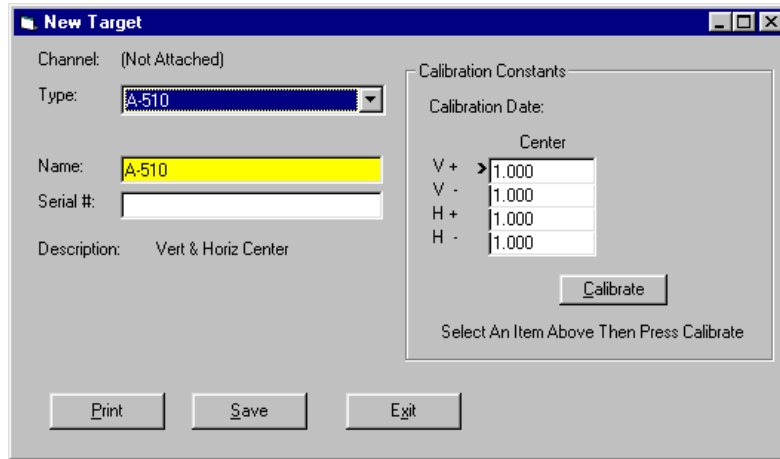

Figure 46 - New Target Screen – 2-axis Target
Click the **New Target** button. The New Target screen displays (see **Figure 46**).
1. **For the first reading, (in this case V+), center the target using the centering micrometer. This corresponds to Step 1 on the Calibration Screen (see Figure 46).**
The Calibration Constants menu for center-and-slope targets requires that four calibration factors for center and four calibration factors for slope be entered (compare with **Figure 46**). The procedure is the same as that for calibrating a center-only target, however the calibration factors for slope are obtained by using the angle micrometer.